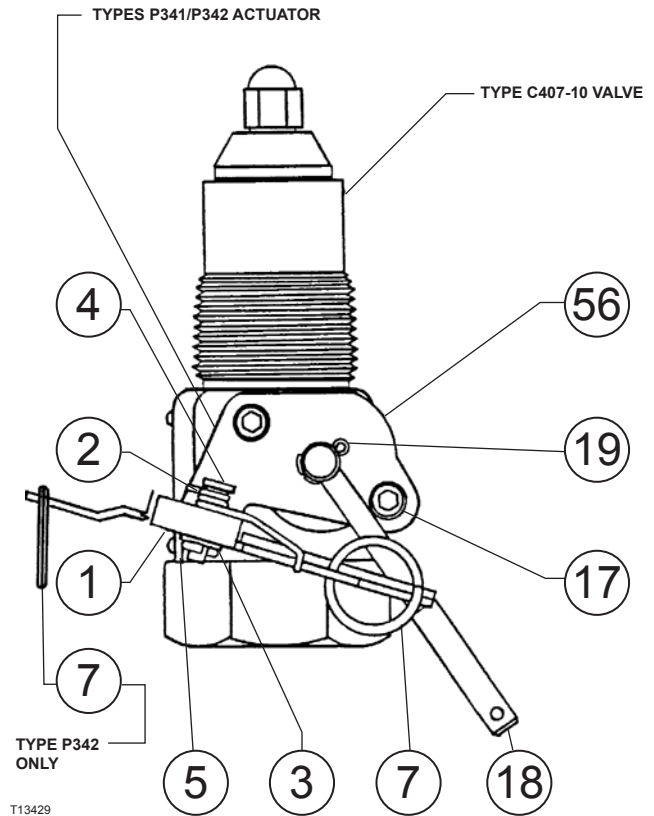

Figure 5. Type P341 or P342 Installed in Type C407-10 Internal Valve
Remote Release—(See Figure 5). To install the Type P341 or P342 latch mechanism, first remove the operating lever (key 18) and take off the cover plate (key 56) by removing the two cap screws (key 17). The new cover plate/latch assembly can be attached to the valve with the same cap screws. Tighten the screws to 25 or 30 inch-pounds (2,8 or 3,5 N•m) torque.
Types P341 and P342 (Figure 5)